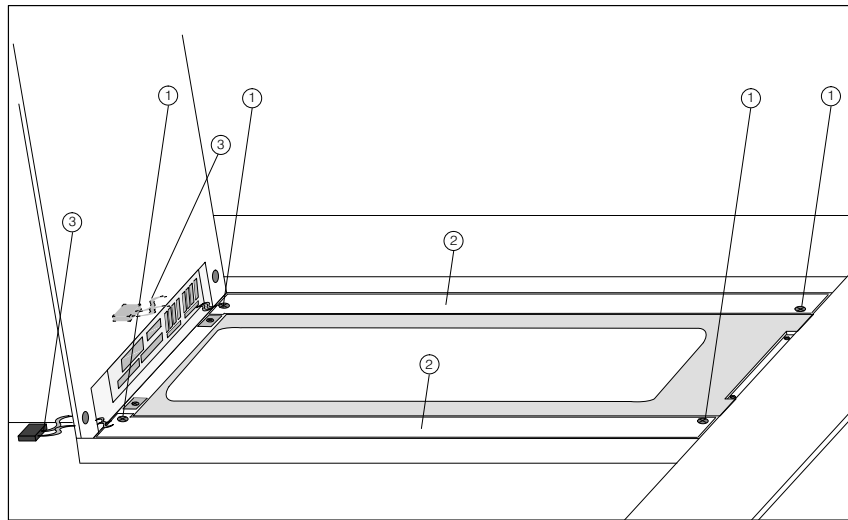
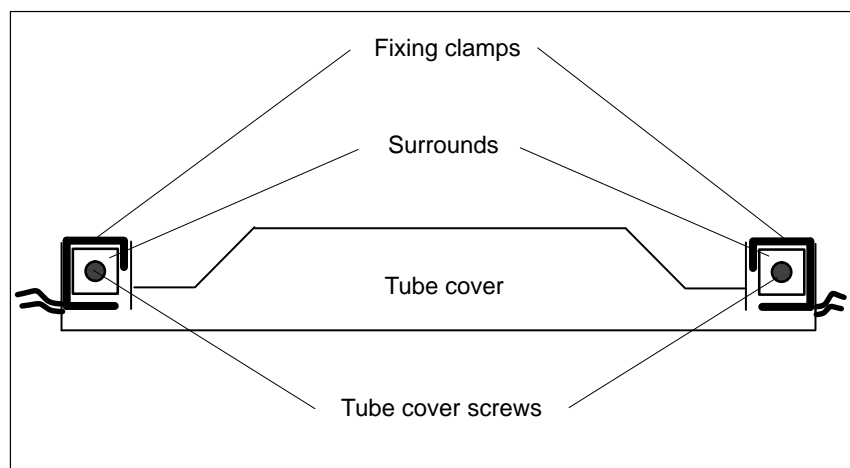

Figure 6-5 Releasing the tube cover screws on the display (general view)
Figure 6-6 Releasing the tube cover screws on the display (detail)
1. Disconnect the connectors for the pink and white power supply cable (Figure 6-5, ③) to the display inverter.
2. Release the screws marked in Figure 6-5 with the number ① from the tube covers (for detail see Figure 6-6). To do so, use a size 0 watchmaker's screwdriver for cross-headed screws.
3. Remove the fixing clamps and their surrounds from underneath the tube covers (for detail see Figure 6-6).
4. Remove covers ②.